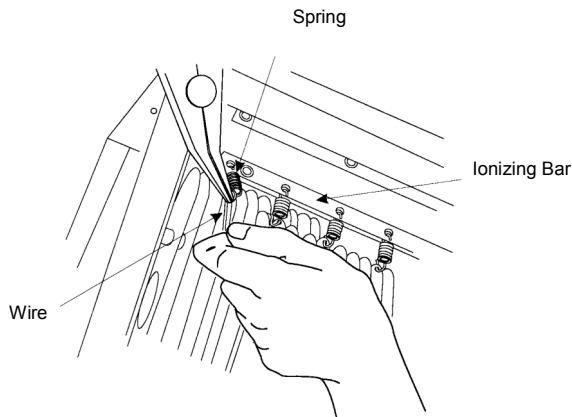

Fig. 3 — Replacing An Ionizing Wire
6. Using the needle-nose pliers, grab the end of the spring and stretch towards loop in wire. Place eyelet in wire over spring hook and release spring. See Fig 3